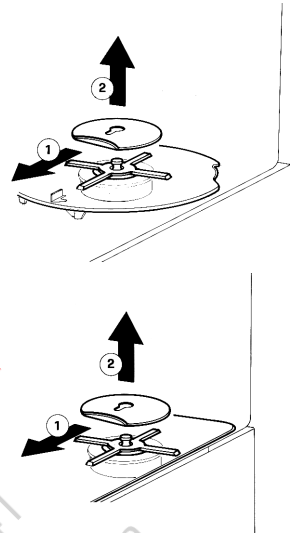

figure 1
- 2 Uncouple (1) the pump cover retainer and lift
it up and out (2) (see figure 1).